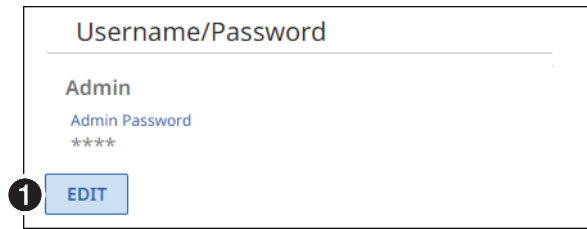
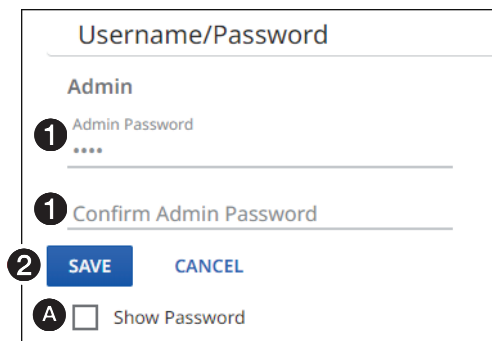

Figure 56. Username/Password Selection
Figure 57. Editable Username/Password Selection
The Username/Password selection on the Device Settings page (see figure 45 on page 45) opens a read-only pane that shows the credentials of the encoder (see figure 56). The Password can be edited by clicking the **Edit** button (1). An editable version of the selection opens (see figure 57).